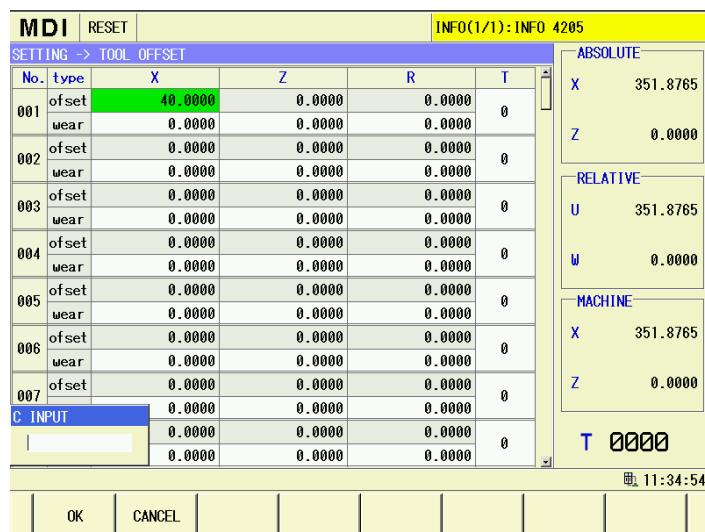

Fig.7-5
(3) Press  software key to enter C input page, which is shown as Fig.7-5: